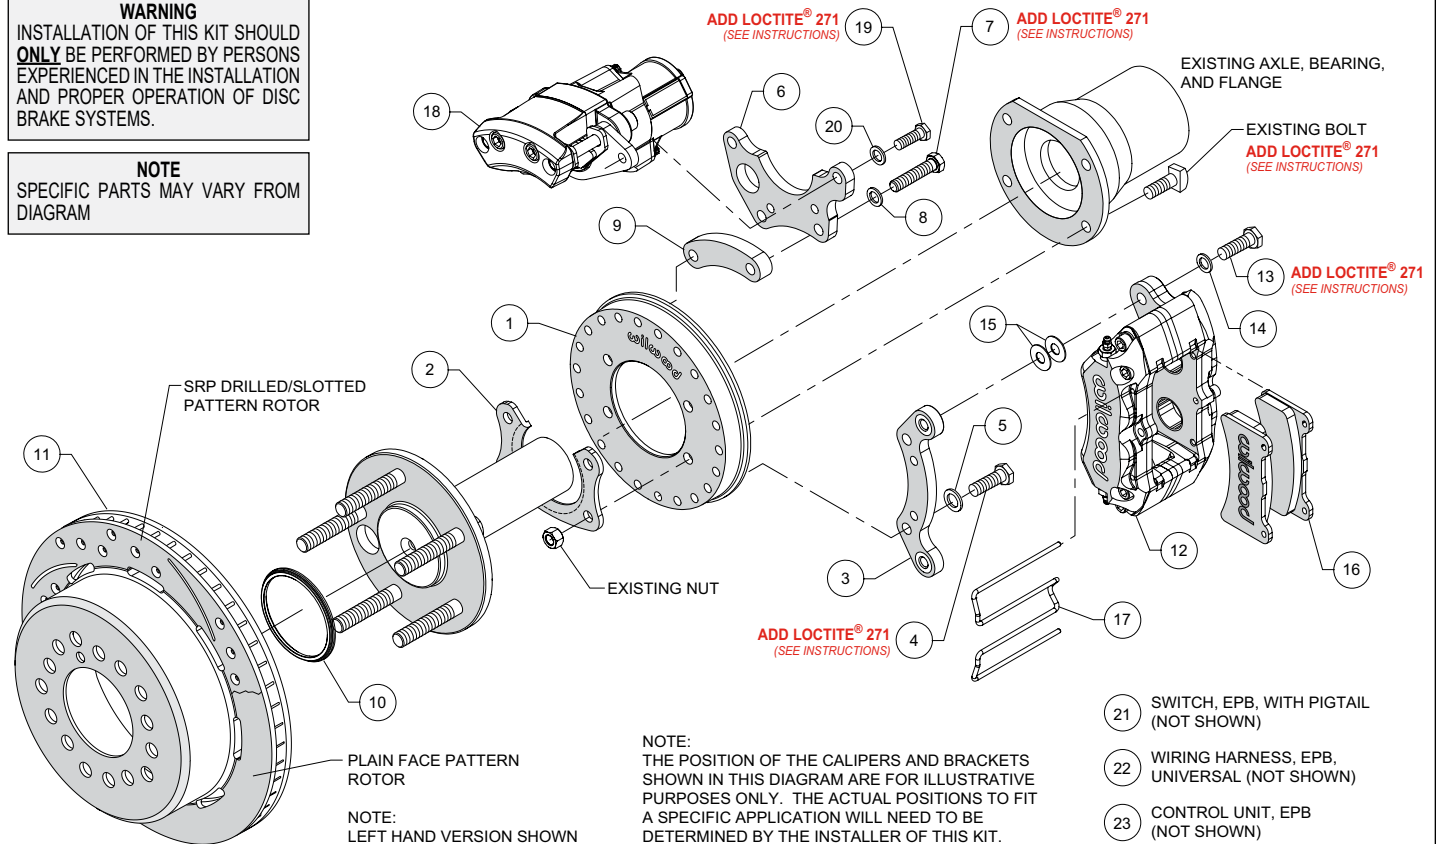
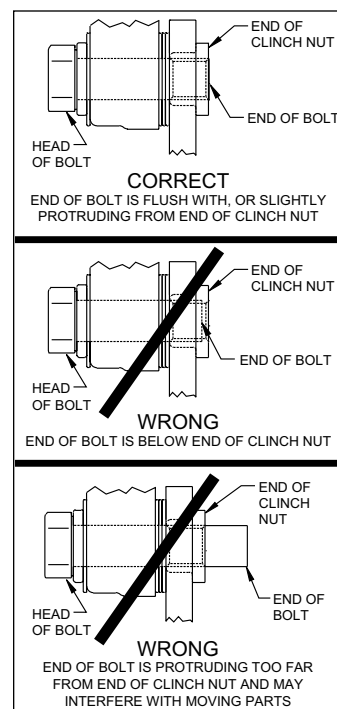

Figure 1. Typical Installation Configuration
Figure 5. Clinch Nut Engagement Diagram
NOTE: Numbers in parenthesis refer to the parts list and Figure 1 on the preceding pages.
CAUTION: All mounting bolts must fully engage clinch nuts. Be sure to check that all bolts are either flush or protruding through flanged side of clinch nut after shimming, Figure 5.
- Orient the backing plate (1) as shown in Figure 1 and Photo 1, and slide it onto the axle housing flange. Ensure the backing plate fits flush against the axle housing flange. Reinstall the axle into the axle housing.
- Install the bearing retainer (2) with the opening pointing upward and the lip facing inward (toward the bearing), as shown in Figures 1 and 4, and Photo 2. Secure retainer and backing plate to the axle housing flange using the Original Equipment Manufacturer (OEM) bolts and nuts, Figure 1 and Photo 3. Apply red *Loctite*® 271 to the OEM bolt threads and torque to OEM specifications.
- Start by determining the best location for the service caliper (12). This caliper is usually mounted in the 3:00 or 9:00 o'clock position, but may be rotated up or down approximately 45 degrees and still allow for proper bleeding, Photo 4. Orient the service caliper bracket (3) as shown in Figure 1 and Photo 5, and install to the backing plate (1) in the desired location using bolts (4) and washers (5). Temporarily tighten bolts. Next, mount the service caliper to the bracket using bolts (13) and washers (14). Temporarily tighten bolts. Check that the caliper (including inlet fitting and hose) has sufficient clearance to all surrounding components through the full suspension travel. Relocate the caliper/bracket on the backing plate as needed to ensure proper clearance is achieved.
- Determine the best location for the EPB caliper (18). **NOTE:** *The EPB caliper motor extends farther inboard than the service caliper and therefore needs additional consideration when determining a mounting location with sufficient clearance.* In the example application shown in Photo 6, the EPB caliper has sufficient inboard clearance to the leaf spring. However, if the EPB caliper were mounted closer to the 12:00 o'clock position, the inner body of the vehicle would hit the caliper during full compression of the suspension.
- Orient the EPB caliper bracket (6) as shown in Figure 1 and Photo 7, and install to the backing plate (1) in the desired location using bolts (7), washers (8), and spacer (9). Temporarily tighten bolts. **NOTE:** The EPB bracket is reversible. In one direction the bracket will position the EPB caliper closer to the service caliper, and vice versa if reversing the bracket. Next, mount the EPB caliper (18) to the bracket using bolts (19) and washers (20). Temporarily tighten bolts. **NOTE:** EPB calipers are Left and Right handed, however they can be used on either side of the vehicle to best suit your specific application. Check that the EPB caliper (including wiring harness connector) has sufficient clearance to all surrounding components through the full suspension travel. Relocate the EPB caliper/bracket on the backing plate as needed to ensure proper clearance is achieved.
- Once the caliper positions have been determined, remove both the service (12) and EPB (18) calipers, leaving both brackets in place on the backing plate. For both brackets, remove the bolts one at a time, apply red *Loctite*® 271 to the threads, and torque to 35 ft-lb.
- Slide the rotor registration adapter (10) onto the register on the axle flange with the smaller O.D. facing toward the rotor/hat (11), Photo 8. Align the correct hole pattern in the rotor/hat with the stud pattern on the axle flange and slide into place, Figure 1. **NOTE:** The rotor/hat must fit flush against the axle flange or excessive rotor run out may result. Install three lug nuts (finger tight) to keep the rotor/hat assembly in place while continuing with the installation. **NOTE:** Some OEM and after market axles come with stud sizes larger than 0.50" diameter. Verify stud size and have a qualified machine shop drill the bolt circle of the hat/rotor to the correct stud size, if necessary.
- NOTE:** Please reference the caution statement at the beginning of the assembly instructions. Remount the service caliper (12) onto the caliper mounting bracket (3) using bolts (13) and washers (14), as shown in Figure 1. Initially place two .035" thick shims (15) on each bolt between the caliper and the bracket, Photo 9. Temporarily tighten the mounting bolts and view the rotor (11) through the top opening of the caliper. The rotor should be centered in the caliper, Photo 10. If not, adjust by adding or subtracting shims (15) between the bracket (3) and the caliper (12). Always use the same amount of shims on each of the two mounting bolts. **NOTE:** The end of each bolt must be flush with or slightly protruding from the head of the clinch nut, as shown in Figure 5. If necessary place spare shims (15) between washer (14) and caliper (12) mounting ear to achieve the proper clinch nut engagement. Once the caliper alignment and clinch nut engagement are correct, remove the bolts (13) one at a time, apply red *Loctite*® 271 to bolt threads, and torque to 40 ft-lb.
- Install the disc brake pads (16) into the service caliper (12), with the friction material facing the rotor (11), Photo 11. Secure the pads in place using pad clip retainer (17), Photo 12.
- Mount the EPB caliper (18) onto the caliper mounting bracket (6) using bolts (19) and washers (20), Figure 1. Apply red *Loctite*® 271 to bolt threads, and torque to 30 ft-lb.
•**NOTE:** *The service caliper (12) in this brake kit utilizes a 1/8-27 NPT pipe thread inlet. OEM rubber brake hoses generally cannot be adapted to Wilwood calipers.* The preferred method is to use steel adapter fittings at the caliper, either straight, 45 or 90 degree (use PTFE tape on pipe threads of adapter fitting for proper sealing to caliper) and enough steel braided line to allow for full suspension travel. **Carefully route hoses to prevent contact with moving suspension, brake or wheel components.** **NOTE:** *Wilwood hose kits are designed for use in many different vehicle applications and it is the installer's responsibility to properly route and ensure adequate clearance and retention for brake hose components.* Wilwood offers universal brake flex line hose kits, domestic (3/8-24 IF) chassis fittings, order: